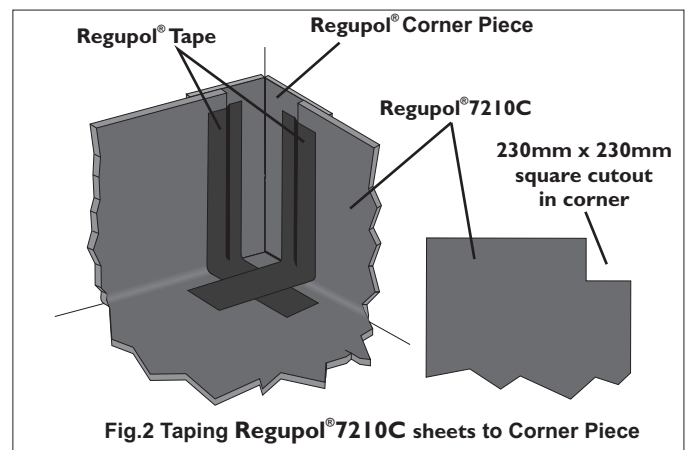

Fig.2 Taping Regupol® 7210C sheets to Corner Piece
3. **Unroll a full width piece of Regupol® 7210C** making allowance for the 100mm upturn at each end. Cut a 230mm x 230mm square piece from the **Regupol® 7210C** in the corner that will overlap the corner piece. Move the **Regupol® 7210C** to overlap the **Regupol® Corner Piece** and turn it up each wall by 100mm. Ensure that all overlapping edges are taped with **Regupol® Tape** (see Fig. 2).